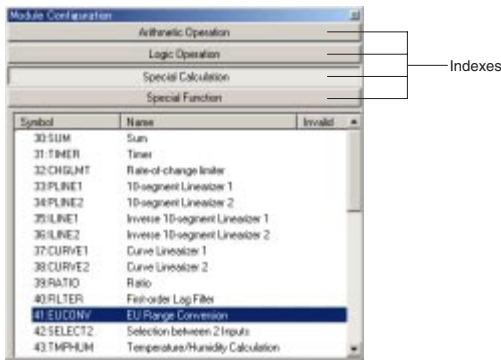

Figure 12.1.5 [Module Configuration] Dialog Box
- (2) In the [Input Block] dialog box, double-click a blank box. The [Module Configuration] dialog box (Figure 12.1.5) appears.